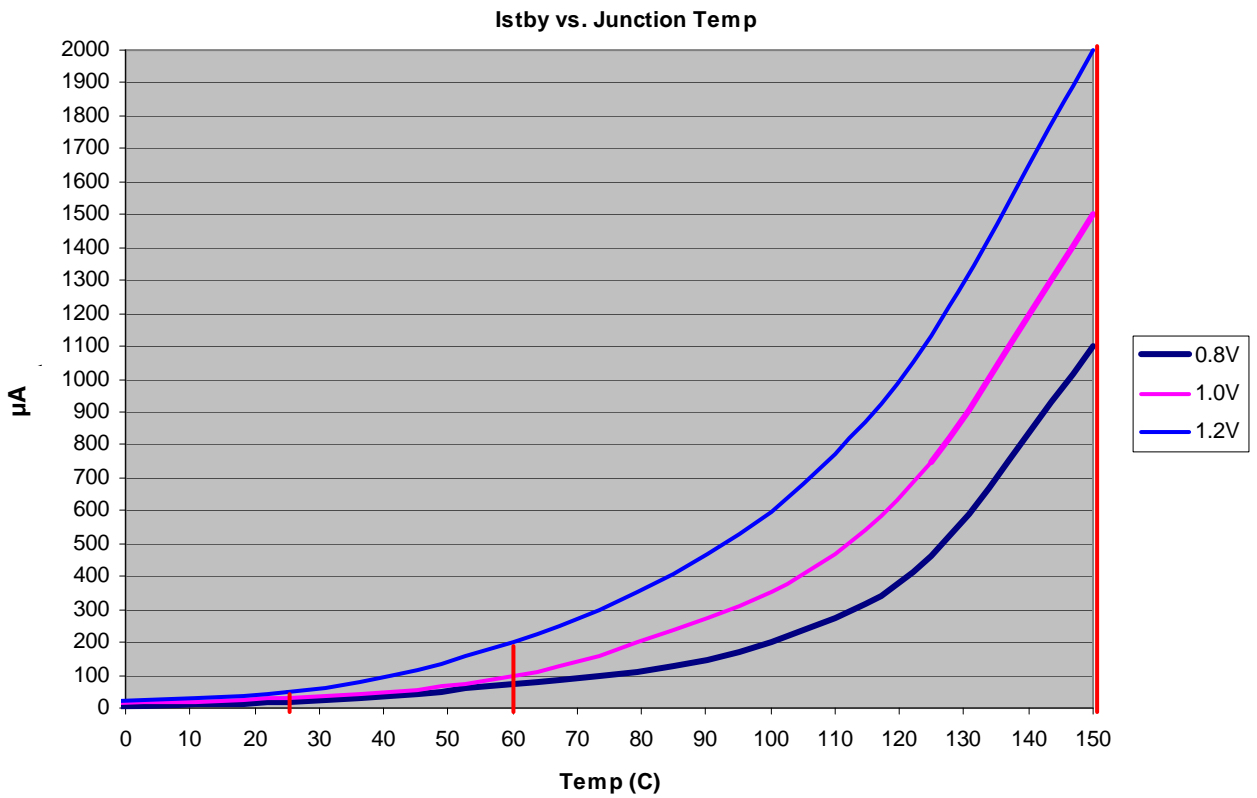

Figure 3. I_{STBY} Worst-case Specifications
27d	Refer to Figure 3 for an interpolation of this data. ¹⁸
⁷ Figure 3 shows an illustration of the I_{DD_STBY} values interpolated for these temperature values.
- ¹⁴ Figure 3 shows an illustration of the I_{DD_STBY} values interpolated for these temperature values.
- ¹⁸ Figure 3 shows an illustration of the I_{DD_STBY} values interpolated for these temperature values.
Figure 3 shows an approximate interpolation of the I_{STBY} worst-case specification to estimate values at different voltages and temperatures. The vertical lines shown at 25 °C, 60 °C, and 150 °C in Figure 3 are the I_{DD_STBY} specifications (27d) listed in Table 9.